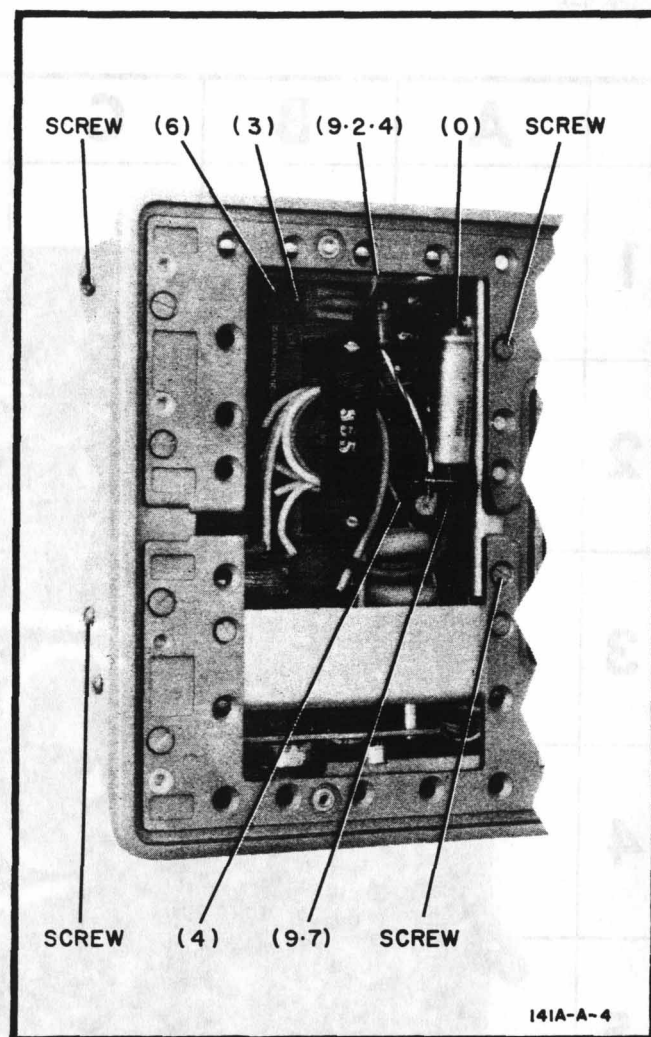

Figure 5-3. High Voltage Deck Removal
Most of the components on the high voltage deck can be replaced without removing the assembly. Other components can be removed and replaced by moving the deck part way out (without disconnecting wires). Refer to Figure 5-3 for mounting screws and wire identification; use the following procedure for removing the high voltage deck.
b. Disconnect the 6 wires from the board and remove the 4 mounting screws; see Figure 5-3 for wire and screw identification.